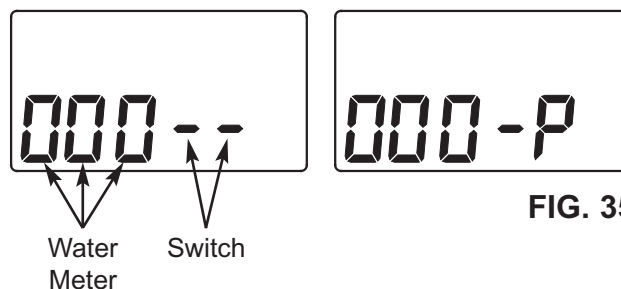

FIG. 35
3. The letter "P" and a dash (or dashes) indicate POSITION switch operation (See Figure 35). If the